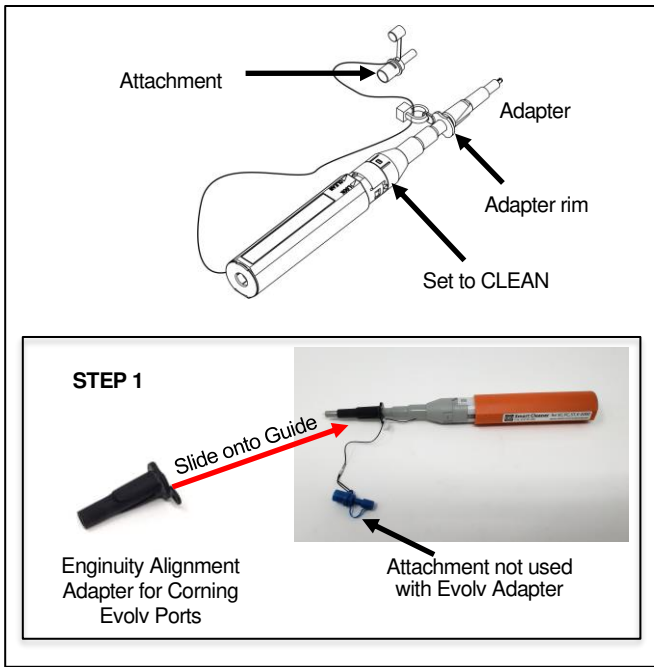

Figure 3. ENG-CAEVLV adapter installed on cleaning tool
- ① Slide the adapter onto the GUIDE, Figure 3. The adapter is keyed to match the port.